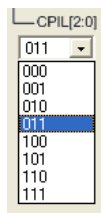

Figure 57
- (1) Click the network by mouse, OP0N can select the specified network.
- (2) Click the network switch by mouse, OP0N can select the specified network.
- (3) Click the mouse, a menu as Figure 57 will appear. Users can select the specified switch network.